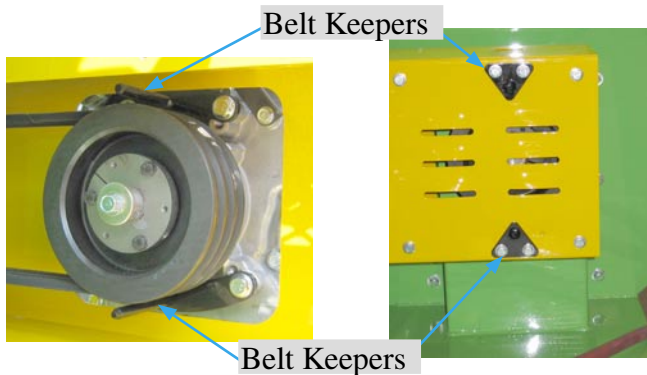

figure 5.1D
1. Then drive the adjuster bolts (Item C on FIG. 5.1C and FIG. 5.1D) counter-clockwise to move the engine toward the impeller shaft. This will loosen the belt.